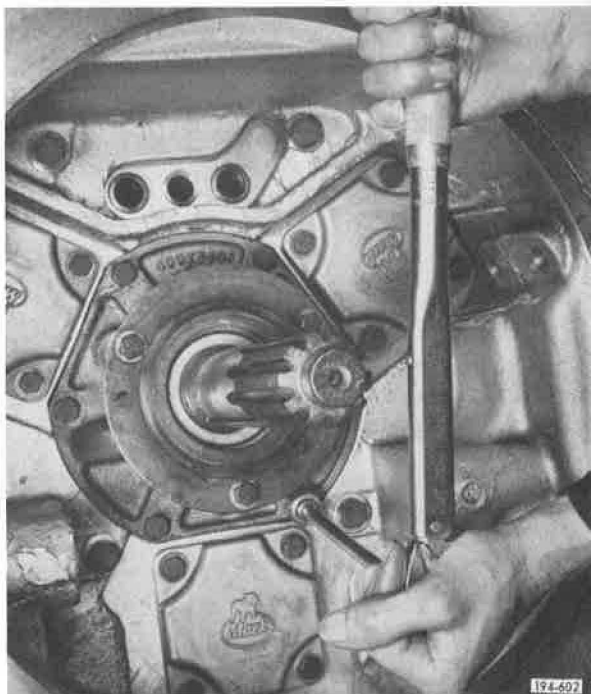

Figure 5-506. Torquing Capscrews
9. Install main drive pinion cover capscrews, and tighten to recommended torque. See Figure 5-506. Refer to Torque and Tolerance Table, Item 6.